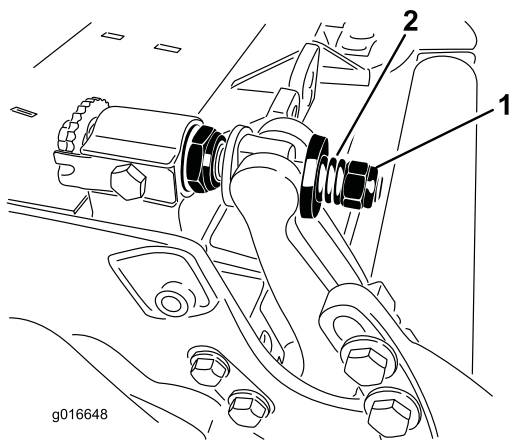

Figure 35
5. Tighten the spring-tension nut until the spring is collapsed, then back off 1/2 turn (Figure 35).